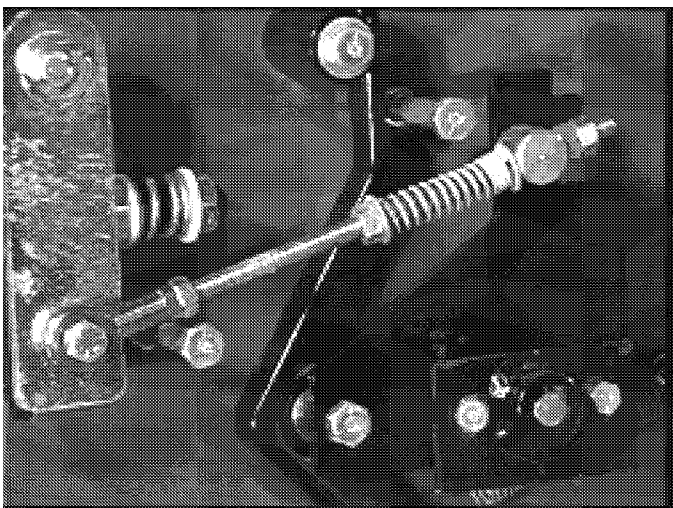

Figure 15
3. Place the drive control arm in the neutral position and the PTO switch in the off position. Figure 15